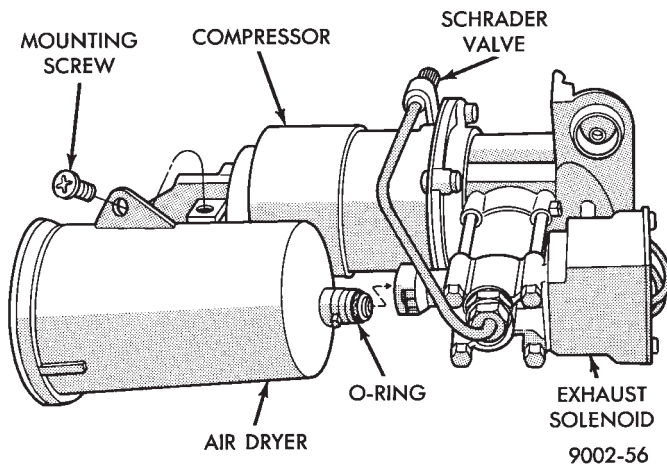

Fig. 13 Air Dryer Remove/Install
(1) Remove dryer-to-compressor retaining screw (Fig. 13).
(2) Rotate dryer assembly 90° to release retaining tangs from exhaust solenoid housing and withdraw unit.
(1) Insert and index air dryer locking tangs into exhaust solenoid outlet.
(2) Rotate air dryer assembly to lock position and install air dryer-to-compressor retaining screw (Fig. 13).